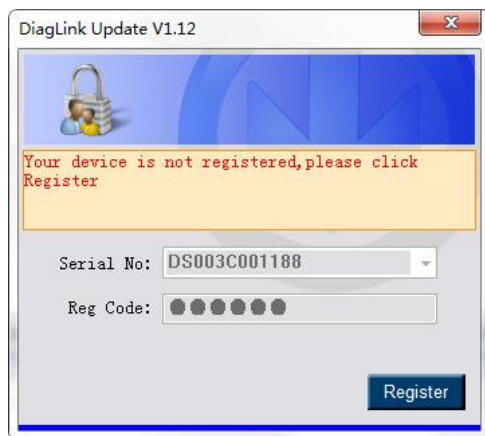

Figure 10.2
- 3) Run the Autel Update option in Autel PC Suite software. Wait for the Log In window to pop up (Figure 10.2).